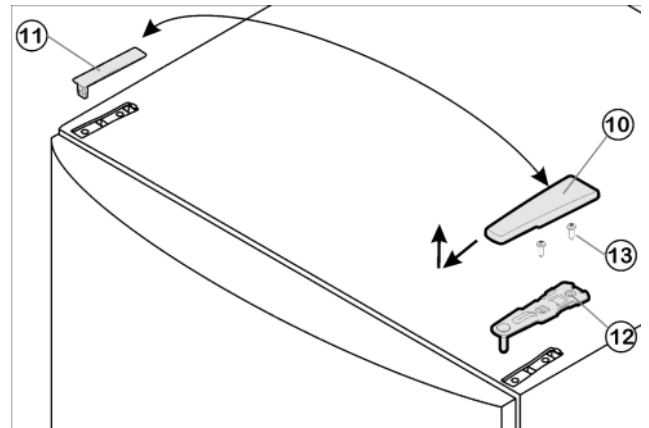

Fig. 4
- ▶ Pull off the cover Fig. 4 (10) forwards and upwards.
- ▶ Lift off the cover Fig. 4 (11).
- ▶ Unscrew the upper turn hinge Fig. 4 (12)(2x Torx® 25) Fig. 4 (13) and lift it off.
- ▶ Insert the upper turn hinge *Fig. 4 (12)* in the door on the new hinge side.
- ▶ Screw the upper turn hinge *Fig. 4 (12)* firmly into place (with **4 Nm**)(2x Torx® 25) *Fig. 4 (13)*. Possibly make preliminary holes with a bradawl or use a cordless screwdriver.
- ▶ Snap the cover *Fig. 4 (10)* and cover *Fig. 4 (11)* into place at the opposite side.